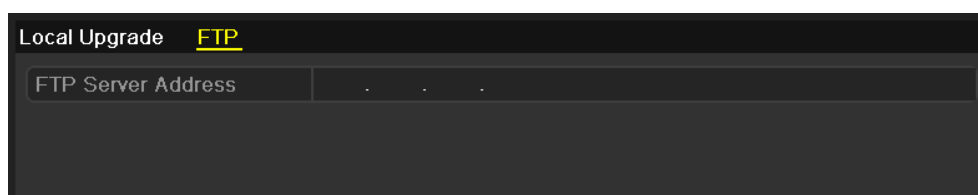

Figure 12. 11 FTP Upgrade Interface
2. Click the **FTP** tab to enter the local upgrade interface, as shown in Figure 12. 111.